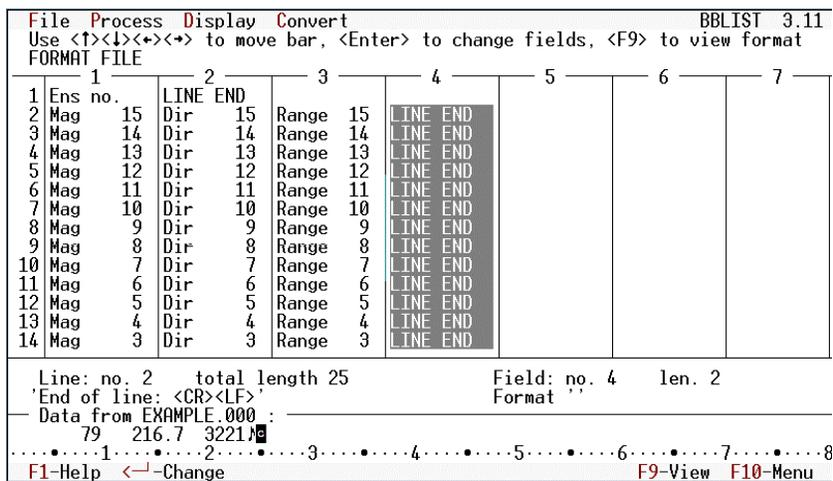

Figure 26. Defining the Format
- h. Select Profiles, Depth ref. Select R for range and press e. Your display should look like Figure 26.